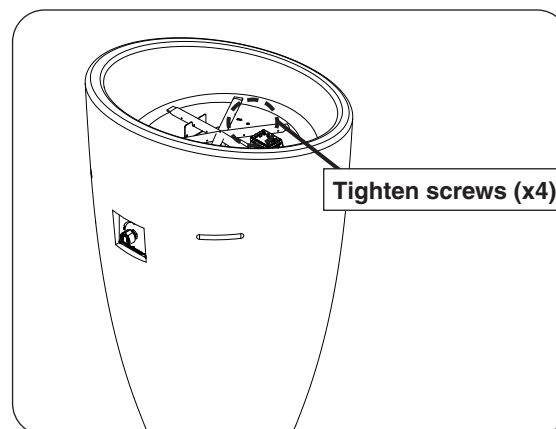

Fig. 22-2 Install burner
2. Use a  $\frac{5}{16}$ " nut driver to fasten the burner to the base (see Fig. 22-2).